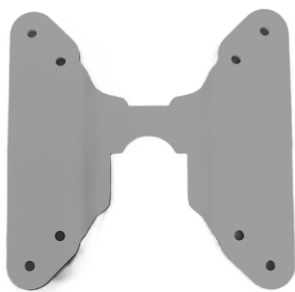

Figure 8 - VESA fitting
3. **Fasten the device to the arm.** On the bottom of the device there is a fitting (see Figure 8). To attach the device to the holder, slide the fitting onto the VESA connector until you hear a "click," indicating that the device is securely attached.